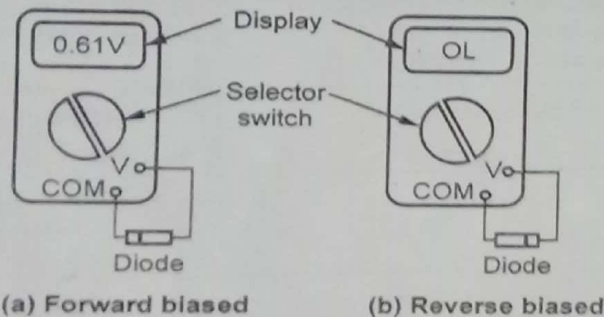

Fig. Q.16.1 Testing of diode with multimeter
- When the terminals are connected so as to forward bias the diode then for perfect diode, the meter shows forward voltage drop of the diode. It shows 0.55 to 0.7 V for the silicon diode as shown in the Fig. Q.16.1 (a).
- When the diode is reverse biased then for the perfect diode, meter gives overload indication by showing 'OL' or '1' on the display as shown in the Fig. Q.16.1 (b).